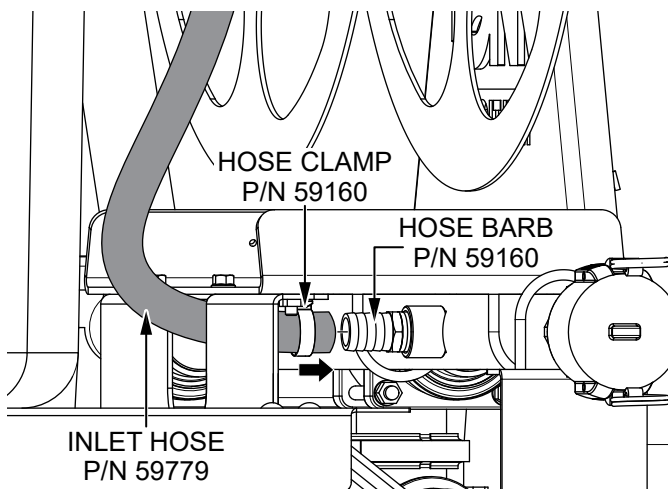

Figure 11. Place Inlet Hose On Hose Barb
9. Place the end of the **hose reel inlet hose (P/N 59779)** onto the **hose barb (P/N 59160)**. See Figure 11.